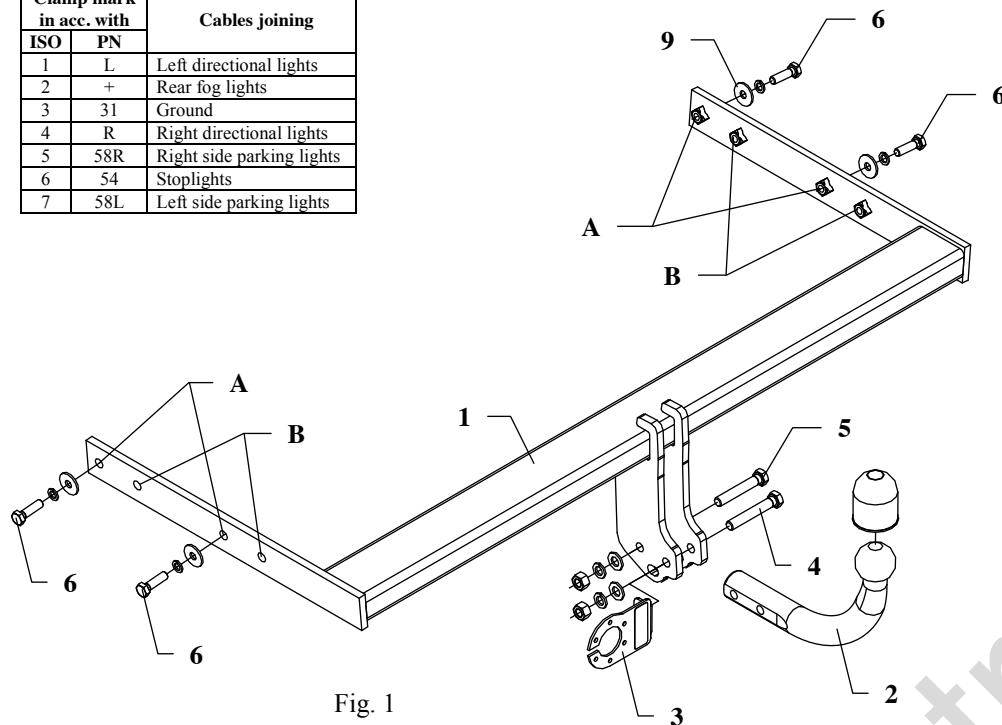

Fig. 1
6. Fix tow ball (pos. 2) using bolt M12x75mm (pos. 4) and M12x70mm (pos. 5). With bolt M12x75mm fix also a socket plate (pos. 3). See figure 1.